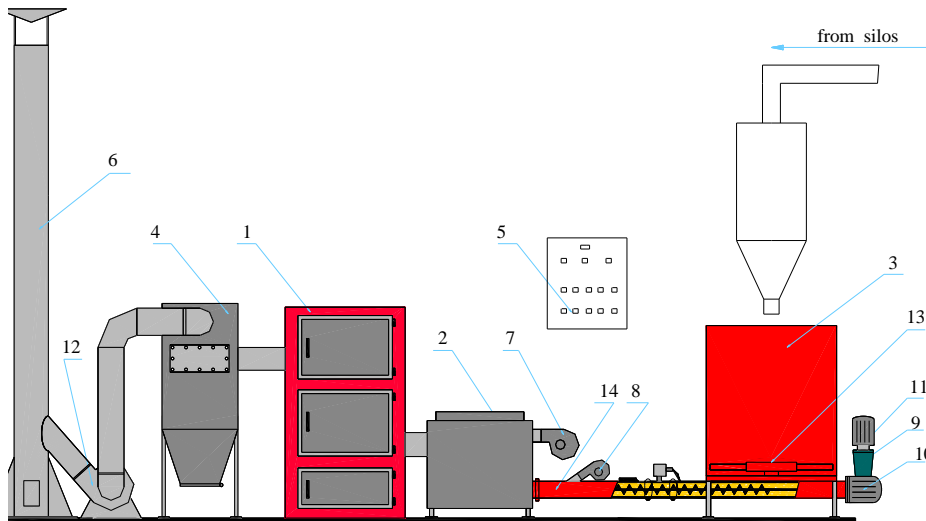

Fig.1. WOOD SAWDUST AUTOMATIC BURNING SYSTEM
**The system** consists of six main assemblies (Fig.1.):
**Gasificator** is a device which the sawdust gasification process goes on in in the way that already formed jet of hot gases comes into the boiler burning place. This way enables the complete combustion of sawdust coming directly from a saw mill plant. The gasificator is cylindrical in shape and in its bottom part there is a grating with a canal for fuel feeding. The gasificator itself is installed with a thick layer of thermoconcrete and has the connections for air inlet and the outlet of the burning process products towards the boiler. There is a centrifugal ventilator (Fig.1. No.7.) installed on the gasificator and it speeds up the process of burning and directing i.e. flow of the gases towards the boiler i.e. the chimney.
The mixer is by a fixed joint connected with the worm feeder support, supporting the centrifugal ventilator 2 (Fig.1. No.8), temperature probe, reducer, buncher and the electric motor.